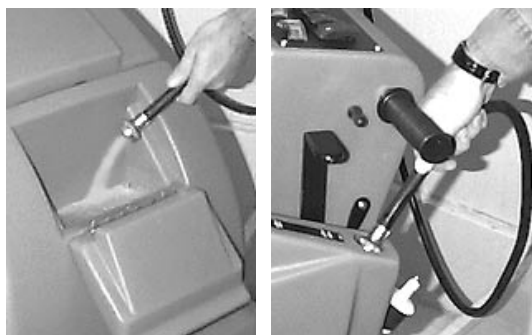

**FIG. 8**
4. With the double bristle row end towards you, guide the brush into the drive hub (Figure 8).